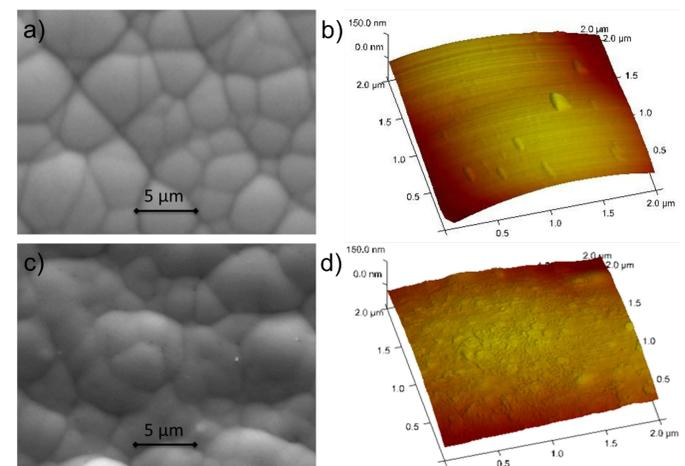

Figure 4: SEM and AFM images of a) & b) electroless nickel and c) and d) immersion palladium on electroless nickel
Immersion Pd coatings were prepared onto a standardized electroless Ni (EN) substrate, deposited from Duraposit SMT 88 at 80 °C for 40 mins resulting in a coating thickness of approximately 5.4 μm and P content of 8.4 wt%. Analysis of the SEM image in **Figure 4 a)** shows the nodular nature of the EN coating, with little detail seen on the nodules themselves. This is confirmed by the AFM image in **Figure 4 b)**.
Once the EN coated substrate had been passed through the immersion Pd plating bath at 80 °C for 20 mins the nodule boundaries can be seen much less clearly (**Figure 4 d**), indicating a coating across the surface, confirmed by EDX showing 11.7 wt% Pd. AFM shows a slight roughening compared to the EN substrate, illustrating the Pd deposit is uniform with a fine grain size.